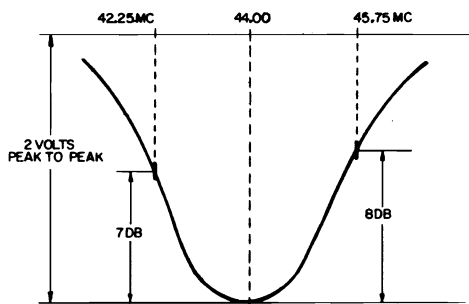

Figure 10 - Typical IF response, 2nd IF Amp Grid to 2nd Det.
| 2. | Oscilloscope and VTVM to TP ⑥. IF sweep generator with CW marker to TP ⑦. a. 44.00 MC. b. 45.75 MC. | a. T203 primary (top slug): Maximum amplitude on VTVM. T203 secondary (bottom slug): Rocking symmetrical response at 44.00 MC. b. Place 45.75 MC marker at 70% of peak response (see Figure 10) for waveshape and marker placement. |
| 4. | CW generator to TP ⑨. Use mixer coupling device shown in Figure 10 : a. 44.30 MC. b. 44.30 MC. c. 47.25 MC. It may be necessary to increase generator output and/or decrease bias. | a. Tuner mixer output coil: Maximum on VTVM. b. T200: Maximum on VTVM. c. L201: Minimum on VTVM. |